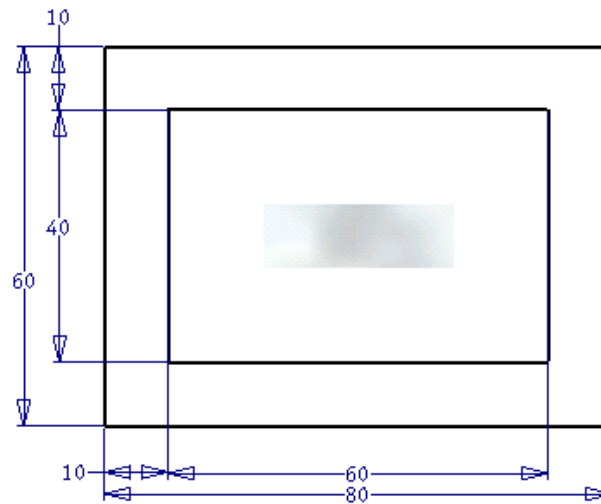

Figure 18-41 *Modified dimensions of the cavity*
2. Modify the dimensions of the cavity, as shown in Figure 18-41.